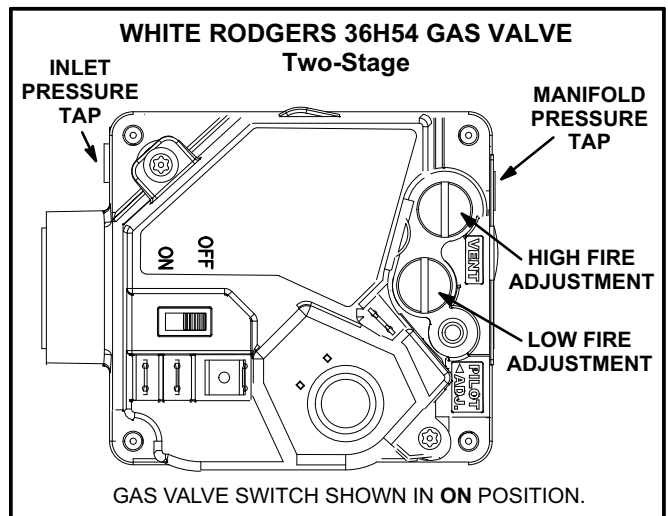
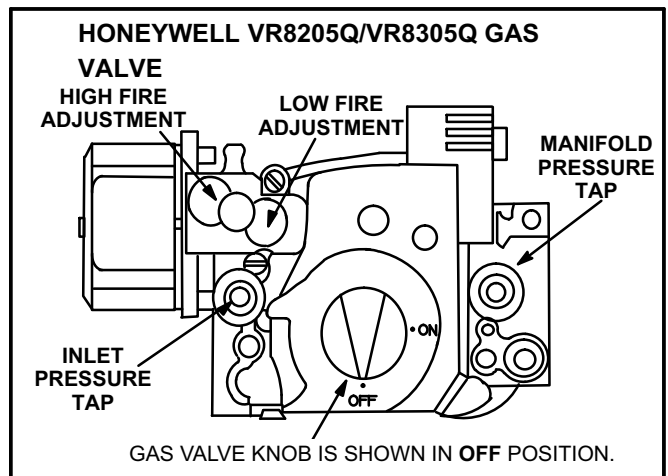

FIGURE 26
FIGURE 27
Gas Valve Operation for Honeywell VR8205Q/VR8305Q and White Rodgers 36H54 (figure 26 and 27).
- 5- Turn gas valve switch to **OFF**. See figure 26. On Honeywell VR8305Q gas valves, turn the knob on the gas valve clockwise  to “**OFF**”. Do not force. See figure 27.
- 6- Wait five (5) minutes to clear out any gas. If you then smell gas, **STOP!** Immediately call your gas supplier from a neighbor's phone. Follow the gas supplier's instructions. If you do not smell gas, go to the next step.
- 7- Turn gas valve switch to **ON**. See figure 26. On Honeywell VR8305Q gas valves, turn the knob on the gas valve counterclockwise  to “**ON**”. Do not force. See figure 27.